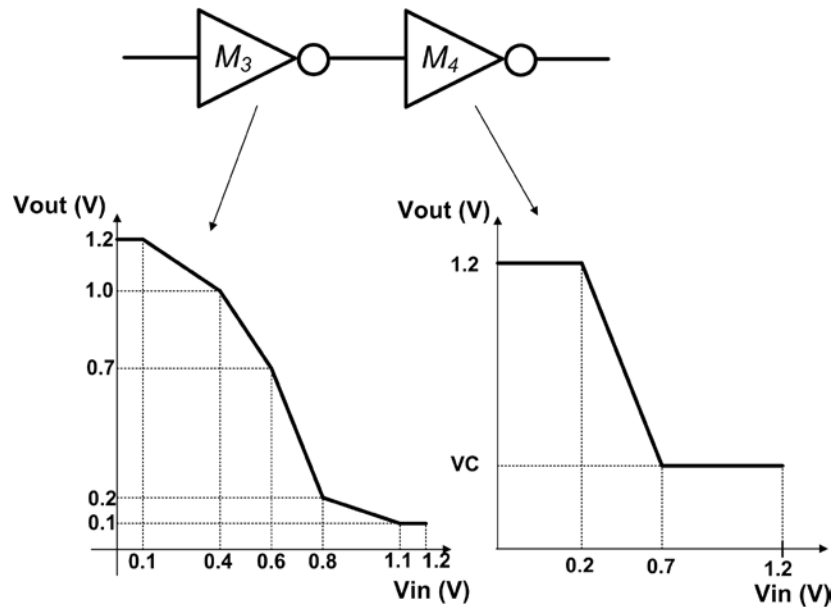

Figure 1(d)
- d) Consider the cascade of gates  $M_3$  and  $M_4$ , as shown in Figure 1(d), where  $M_3$  is the gate from parts (a) & (b), and  $M_4$  is the gate from part (c). If  $V_A = 0.2V$ ,  $V_B = 0.7V$  and  $V_D = 1.2V$  (as shown in the figure), what is the range of values of  $V_C$  for which the cascade is digital? As a part of your answer, sketch out the VTC of the cascade of  $M_3$  and  $M_4$ .